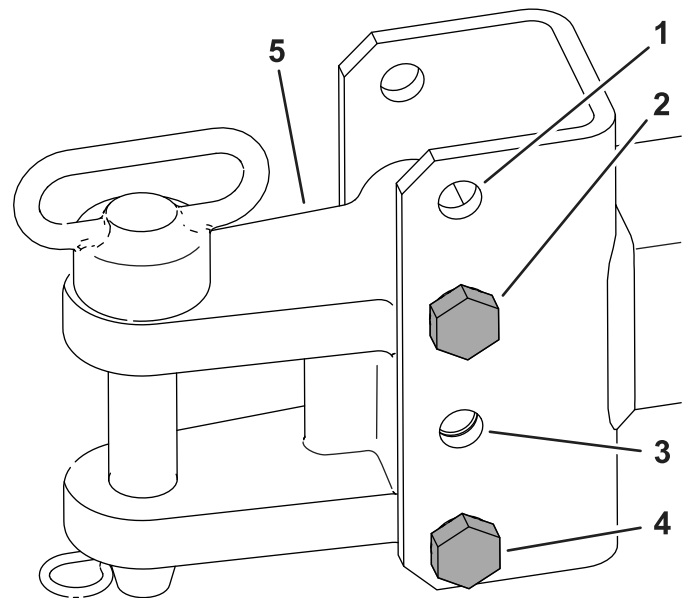

Figure 7
2. Adjust the transport frame hitch up or down according to the measurement of the machine hitch. Use the appropriate mounting holes as shown in the table below and in Figure 7.